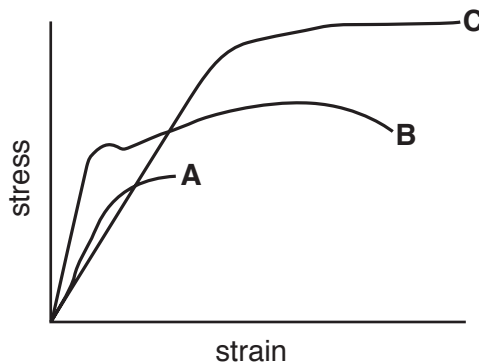

Fig. 4
- (b) Fig. 4 shows a stress/strain graph for three different metals: aluminium alloy, cast iron and mild steel.